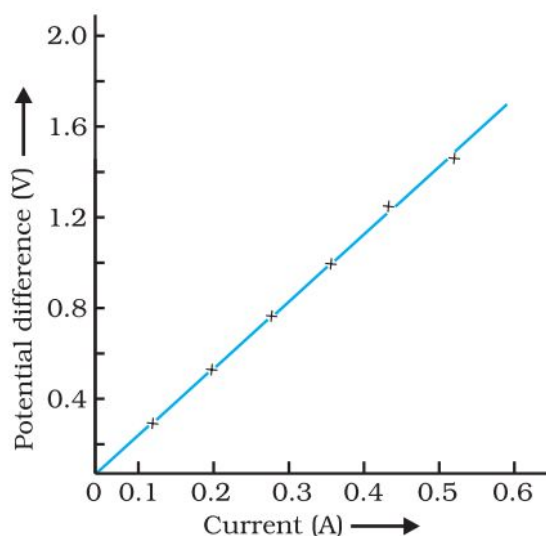

Fig. 7.2: A plot of  $I$  vs  $V$  for the verification of ohm's law
Figure 7.2 shows a graph between current  $I$  in (A) and potential difference  $V$  in (volt) can be plotted. This is plotted for fictitious value of  $I$  and  $V$ . The graph as shown is a straight line. This also confirms the verification of Ohm's law.